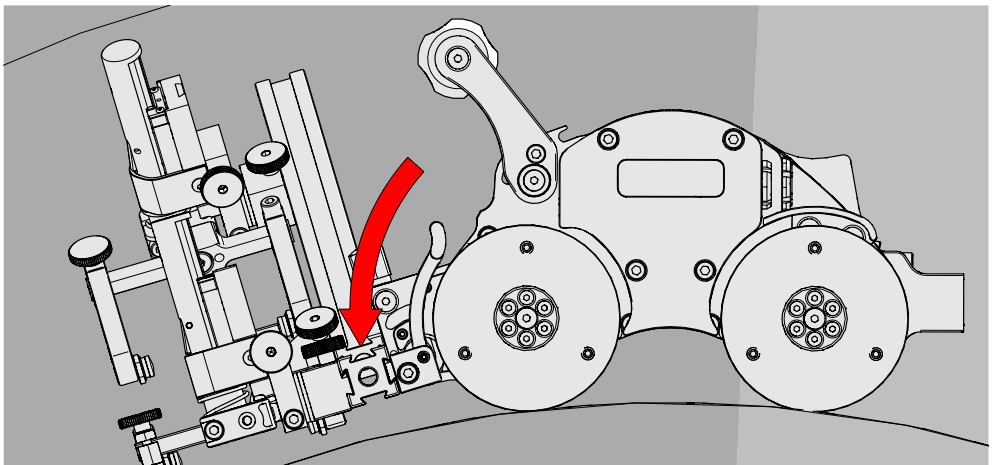

Fig. 173 - Align swivel mount with scan surface
3. Release the front swivel mount adjustment levers to align the swivel mount parallel to the scan surface (Fig. 173).